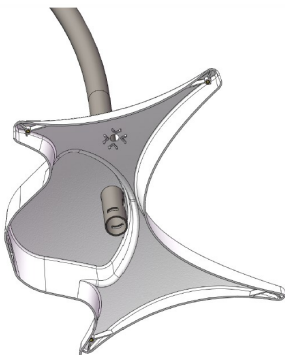

Figure 4: Base cover to post assembly.
5. Take the base cover and slide it onto the non-flared end of the post. This can be seen in Figure 4.